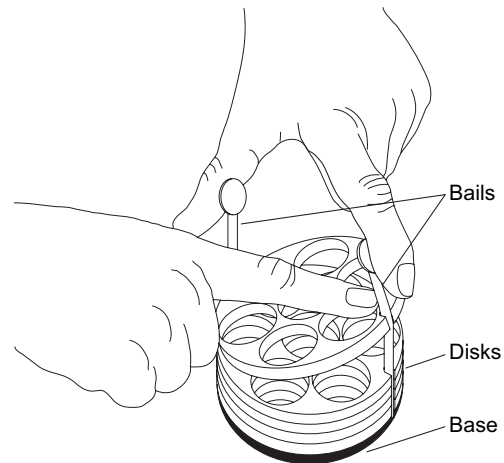

Figure 3. Assembling a Modular Disk Adapter
1. Select the appropriate adapter base (from Table 1) and attach a bail to it (see Figure 3).